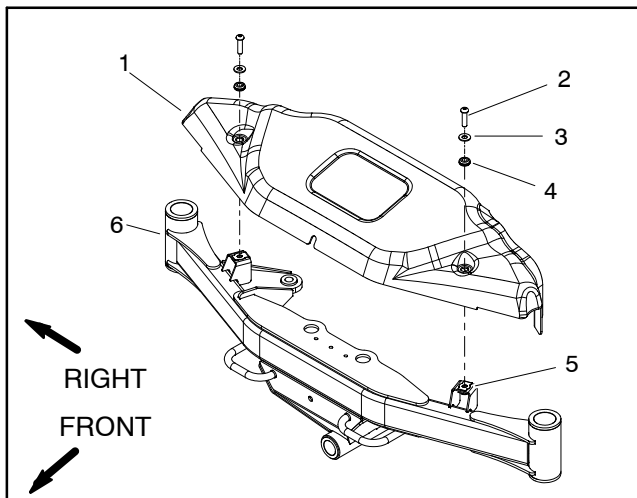
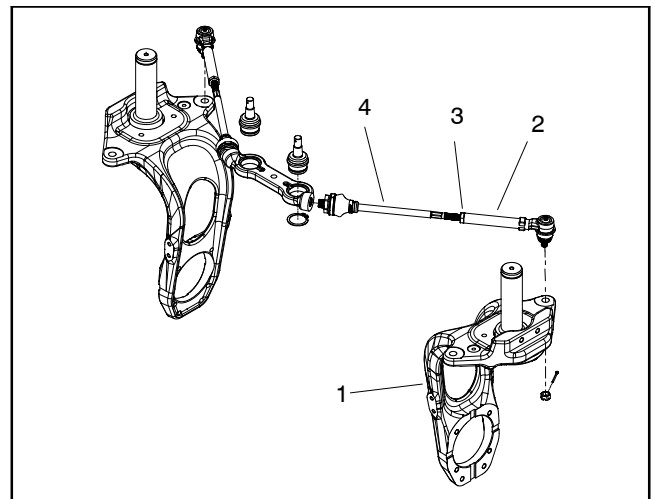

Figure 5
Figure 9
3. Remove front cover from front axle to allow access to front steering components (Fig. 5).
10. If straight edge does not contact the tires at four (4) points, adjustments to tie rods are necessary to align wheels (Fig. 9).
11. After tie rod adjustment has been completed, make sure that straight edge contacts the front and rear tires at four (4) points. Repeat tie rod adjustment if necessary.
D. Install front cover to front axle (Fig. 5).